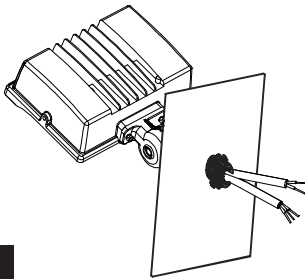

Fig. 1
1. Secure the fixture to a 1/2" NPS hole in the junction box or landscape post as shown in Fig. 1.
1. Secure **Adapter Bracket** to **Housing** with (2) **Screws** (provided). Feed **Housing** wires through **Adapter Bracket** as shown in **Fig. 1**.